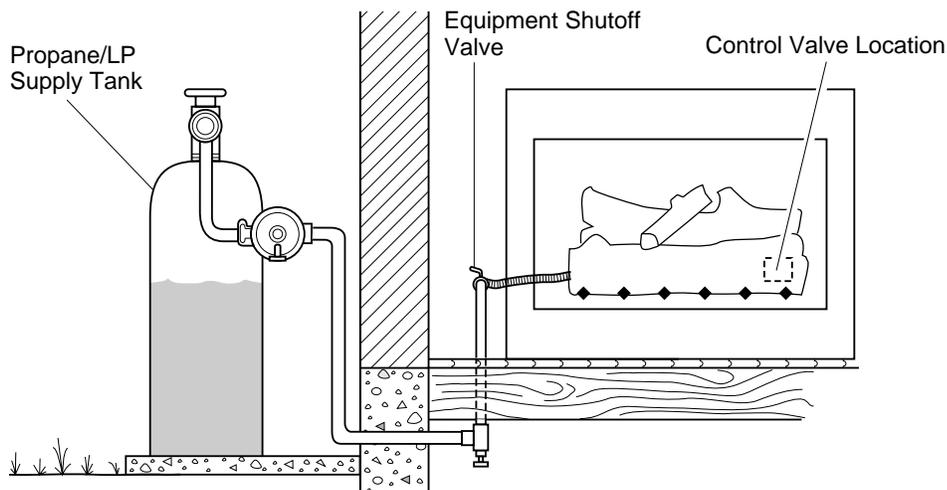

Figure 17 - Checking Gas Joints
3. Check all joints from propane/LP supply tank to equipment shutoff valve (see Figure 17). Apply mixture of liquid soap and water to gas joints. Bubbles forming show a leak.
4. Check all joints from equipment shutoff valve to control valve (see Figure 17). Apply mixture of liquid soap and water to gas joints. Bubbles forming show a leak.